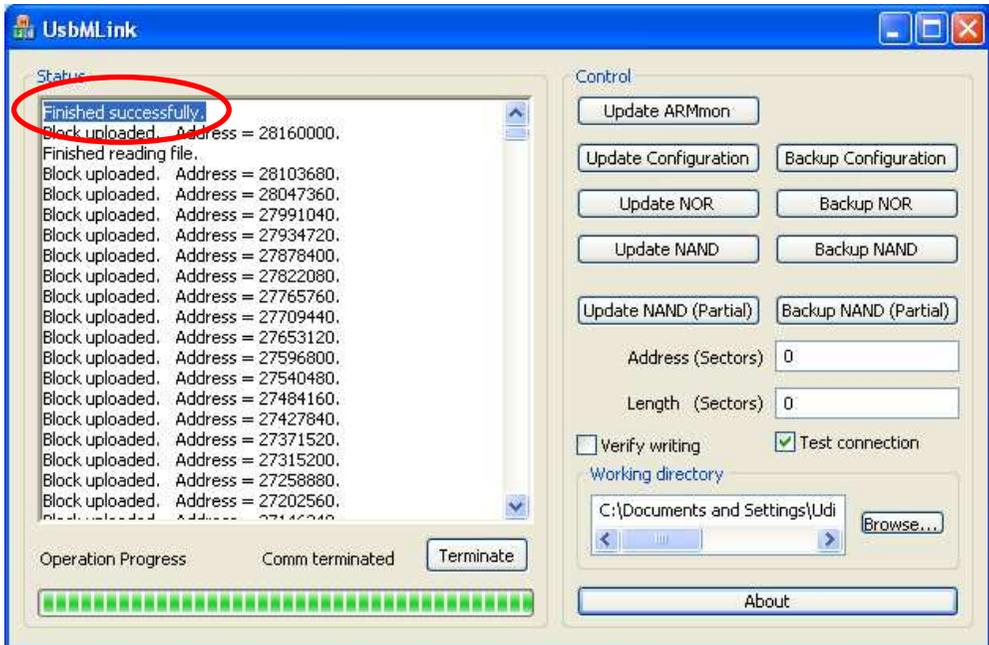

Figure 118:
- Update is concluded when message "Finished successfully" appears in the left side of the "UsbMLink" window (Figure 118).